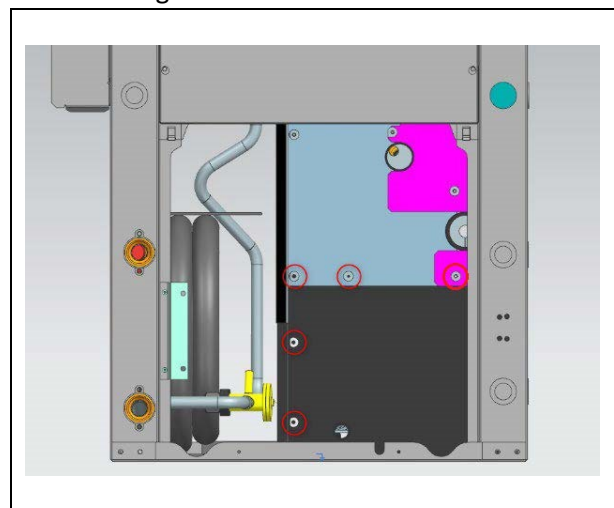

Figure 7. Encapsulation screw locations
9) Remove screws holding encapsulation panel #3. See figure 7.